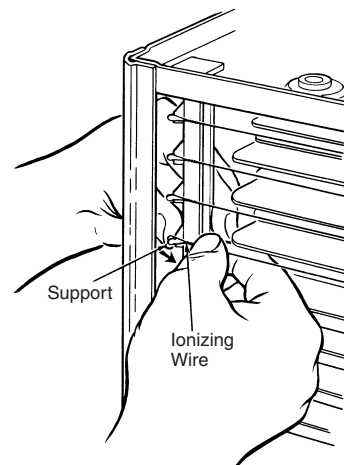

Figure 23
4. Hold your finger against the support at the other end (Figure 23) and hold the ionizing wire between thumb and forefinger as shown or use needle nose pliers. Press inward on spring support. Hook end of wire over small tab at end of support and release. Make sure wire is securely anchored at each end.